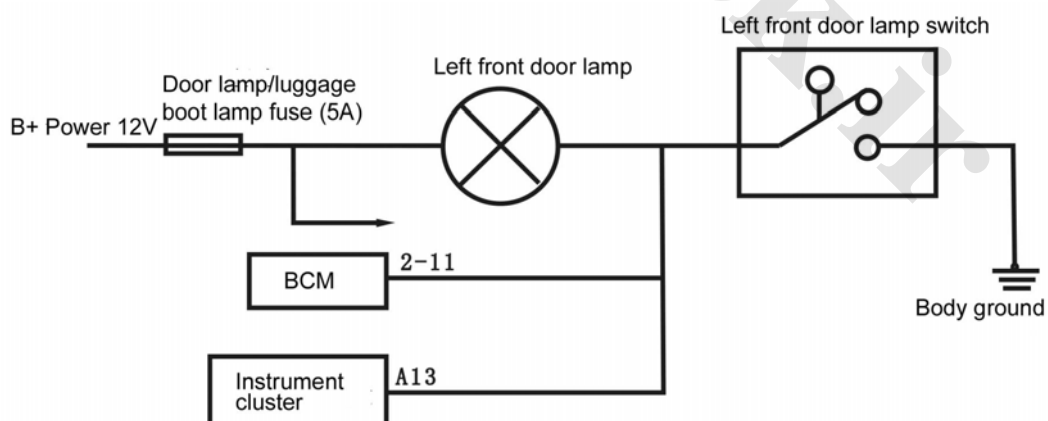

Fig. 4-25
### (2) Check the circuit as shown in Fig. 4-25